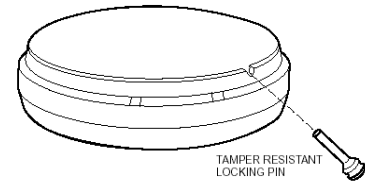

Figure 5
6.7 To make your carbon monoxide alarm tamper resistant, a locking pin has been provided in the bag with the screws and anchors. Using this pin will deter children and others from removing the alarm from the mounting plate. To use the pin insert it into the hole in the side of the alarm after the alarm has been installed on the mounting plate (see fig. 5). Note the tamper resist pin will have to be removed in order to change the battery; this can be done easily with a long nose pliers. Using the long nose pliers pull the pin out of the hole, it is now possible to remove the alarm from the mounting plate.
IF TAMPER RESISTANT PIN HAS BEEN USED, REFER TO STEP 6.7 UNDER INSTALLATION INSTRUCTIONS FOR REMOVAL INSTRUCTIONS. (See Figure 5)